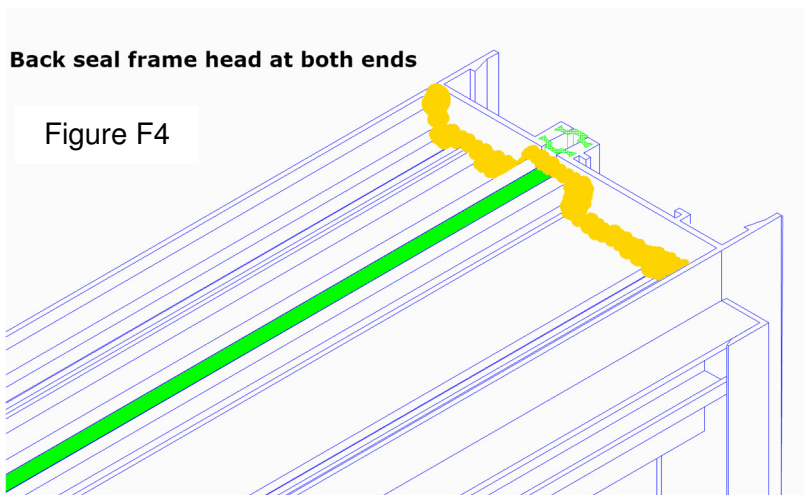

Figure F4
- J. Back seal the head/jamb corner as shown in Figure F4.